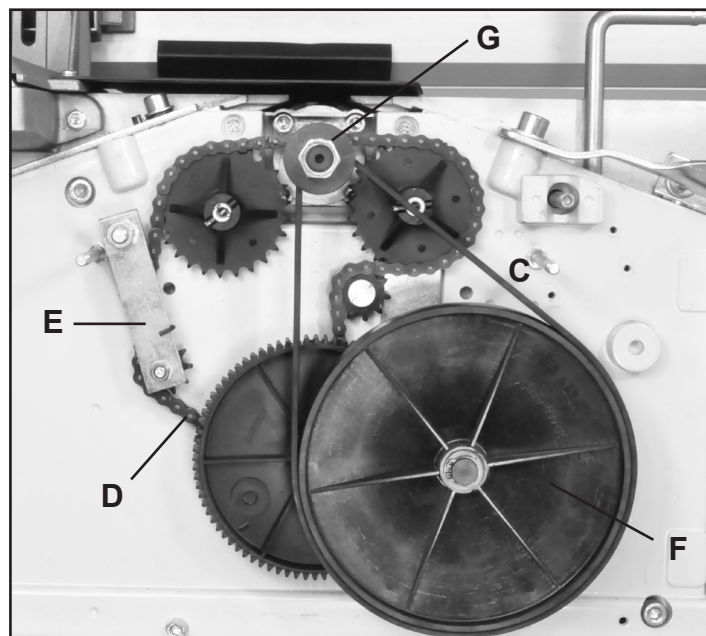

FIG. 31
6. The *Feed Roller Belt* (#256, FIG. 31, C) requires no adjustments. Its elasticity automatically applies tension.
7. The *Feed Roller Chain* (#248, FIG. 31, D) is automatically tensioned with the Spring Assembly (#246, 247, 249, E) and requires no adjustments.
2. To replace the *Feed Roller Belt* (#256, FIG.31, C), simply stretch the elastic belt and position it over the large, Flat Belt Pulley (#257, F), then the Cutterhead Shaft (G).